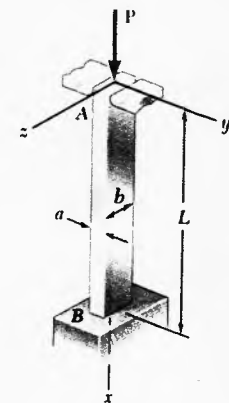

Figure 11
5. a. An aluminum column of length  $L$  and rectangular cross section has a fixed end B and supports a centric load at A as shown in figure 11. Two smooth and rounded fixed plates restrain end A from moving in one of the vertical planes of symmetry of the column, but allow it to move in the other plane. [6]